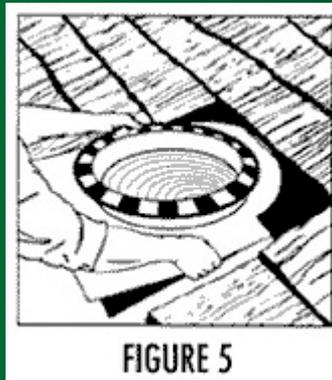

FIGURE 5
- With the tubing and lower ring attached to the underside of the skylight, slide the base into position of the roof. Ensure that the upper portion of the sheet metal flashing is underneath both the existing roof material and the underlying (felt). The lower portion of the sheet metal flashing should be on top of the existing roof surface and fastened in a similar manner to normal flashing requirements for the appropriate roof type. Note: Re-install any pieces of the roofing material to cover the side flashing removed during installation. (See figure 5)